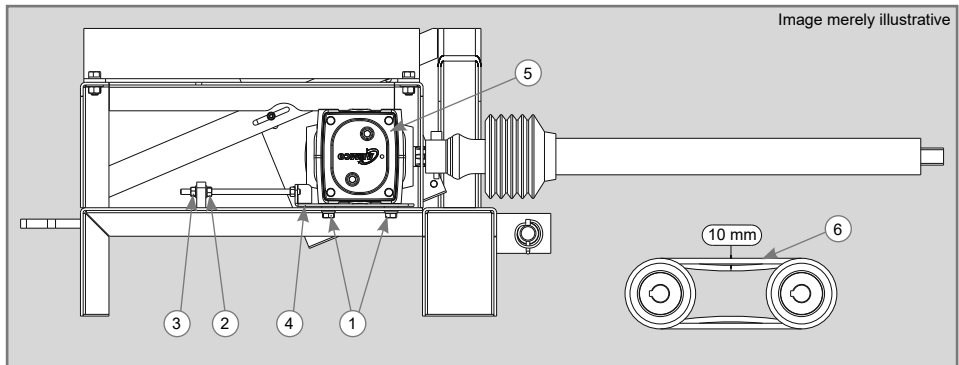

Figure 6
- ✓ TRAPP machines already leave the factory with the belt clearance adjusted for safe and effective work, but with the equipment's usage time this clearance can increase, due to the belts being stretched by the work performed. When this clearance increases, we must adjust it to continue guaranteeing good equipment performance and ensuring operator safety. The ideal belt clearance (6) is 10 mm, as shown in the image above.
- ✓ To adjust this belt clearance, just follow the steps below and follow figure 6:
2. After removing belt guard, loosen the screws (1) that secure the transmission box (5) just to keep the box slightly loose and to be able to move it forward or backward.
3. By loosening the nut (3) and tightening the nut (2), you will be stretching the belts, removing the excessive clearance from the belts, and by loosening the nut (2) and tightening the nut (3) you will be increasing the clearance in the belts.